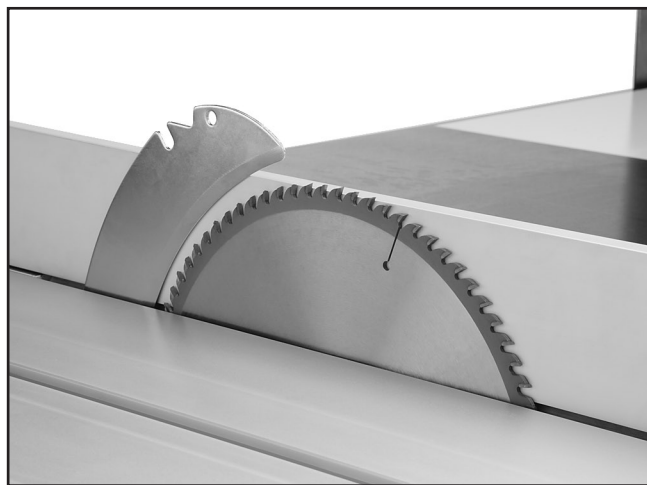

Figure 50. Fence used to align blades.
2. Move the rip fence against the main blade (or scoring blade) as shown in **Figure 50**.
1. Tilt the blade to 0°, raise the main blade all the way up, and move the rip fence against the blade as shown in **Figure 50**.